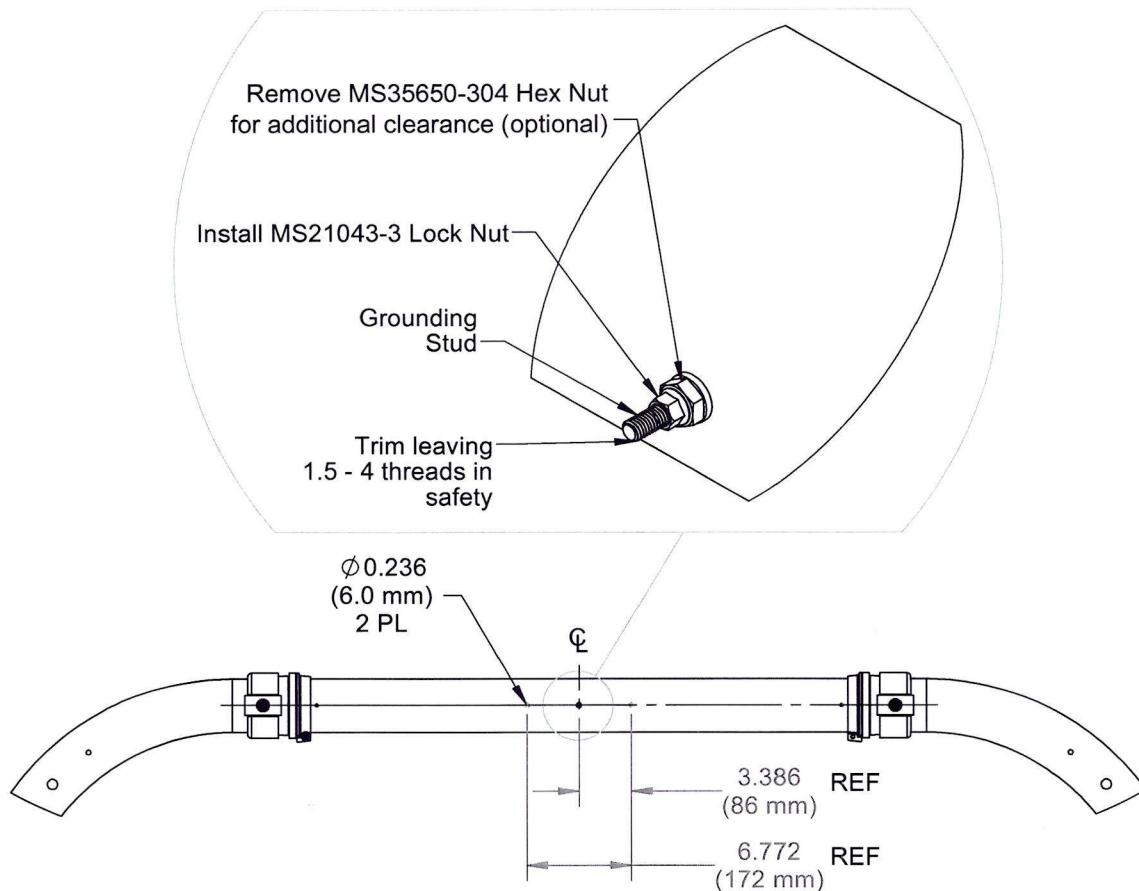

FIGURE 1: D135-1027-241/-243 AFT CROSTUBE
2.2 On the D135-1027-241/-243 Aft Crosstube, install MS21043-3 Lock Nut and trim the forward side of the central grounding stud leaving 1.5 - 4 threads in safety as shown in Figure 1 of this Service Instruction. If required for clearance, it is permissible to remove the MS35650-304 Hex Nut and replace with the MS21043-3 Lock Nut only to allow additional trimming. Tighten MS21043-3 until snug.
2.3 Drill 2x $\phi 0.236$ "-0.244" ($\phi 6.0$ -6.2 mm) holes on the fwd side of the D135-1027-241/-243 Aft Crosstube as shown in Figure 1 of this Service instruction. The holes are symmetrical about the center of the Aft Crosstube and 6.752" - 6.791" (171.5 - 172.5mm) apart. It is recommended to transfer mark holes from OEM aft cargo hook attachment cross-bracket to ensure correct fit.